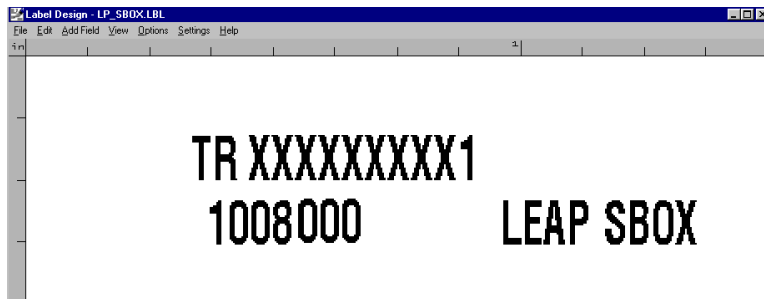

Figure 1-15
1.18.6. Click off of the field to deselect it. (Figure 1-15)